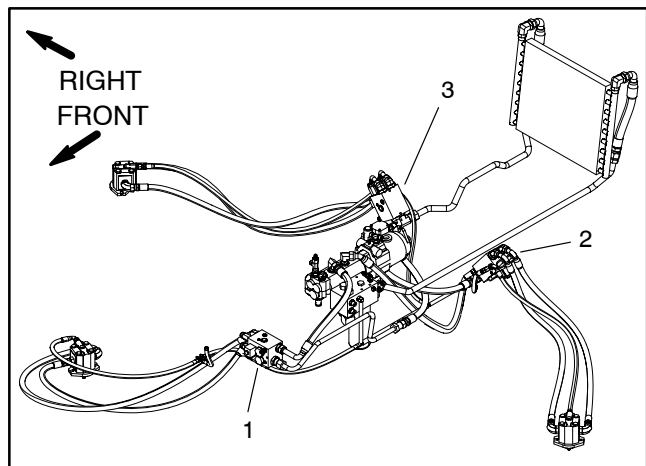

Figure 22
3. Locate deck manifold to be tested (Fig. 22). Disconnect hydraulic hose at deck manifold port (MP).